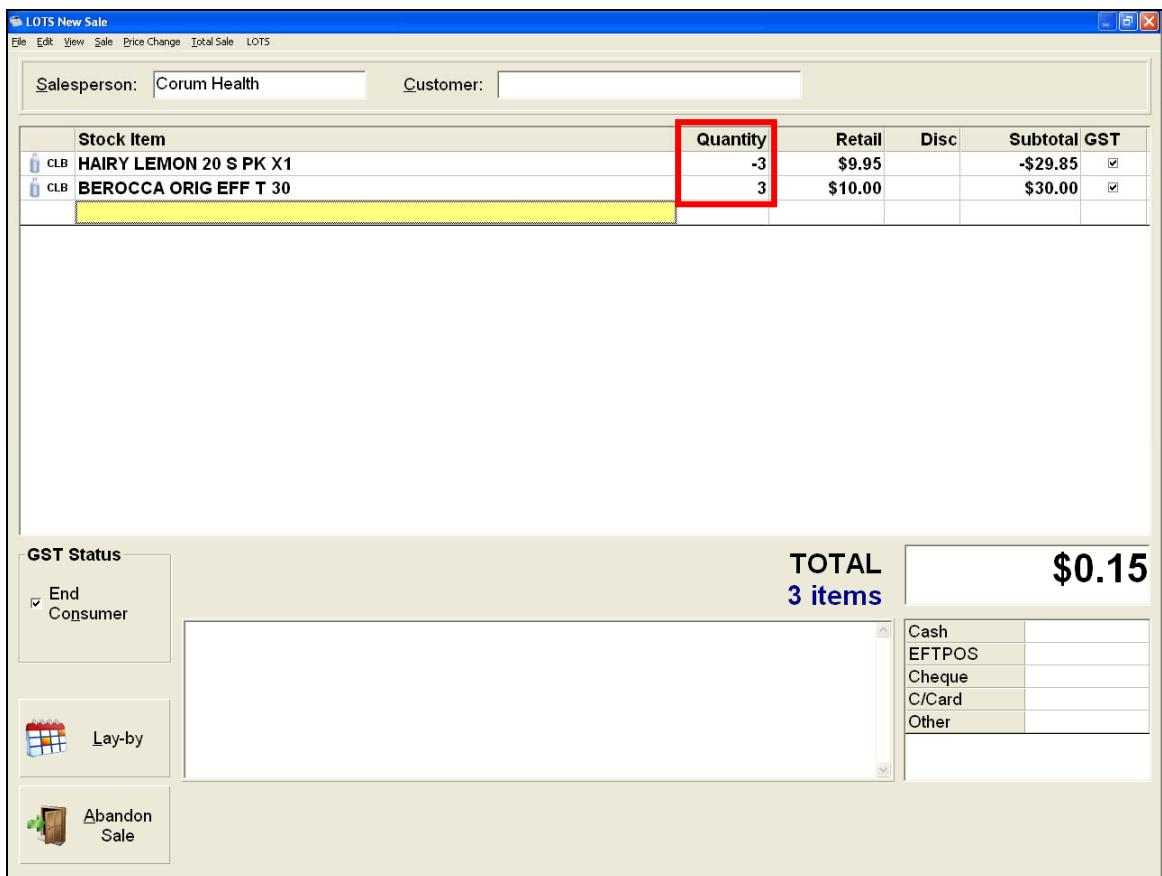

Figure 47
3. For each product they wish to return enter in a negative quantity into the Quantity column (see Figure 47).